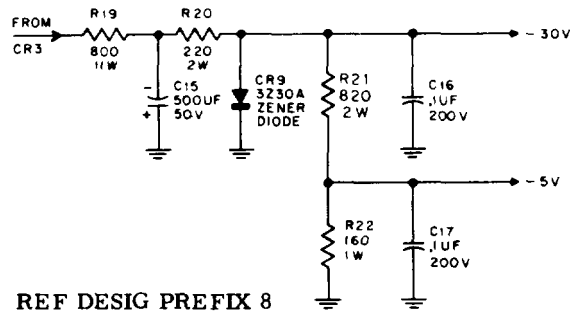

Figure 4-36. Bias Regulator, Simplified Schematic Diagram
4. NEGATIVE 30 VOLT REGULATED BIAS SUPPLY. - Figure 4-36 shows the circuit used to obtain this regulated voltage. The current from a low voltage winding of transformer 8T1 is rectified by 8CR3 and filtered by the network consisting of resistor 8R19 and capacitor 8C15. The -30 volt output is regulated by resistor 8R20 and Zener diode 8CR9. Capacitor 8C16 bypasses to ground the noise generated by 8CR9,
This voltage is obtained through a voltage divider on the -30 volt output consisting of resistors 8R21 and 8R22 (figure 4-36). Only a very slight current is drawn from this network so the -5 volt output is relatively stable. Capacitor 8C17 bypasses to ground the noise generated by 8CR9.